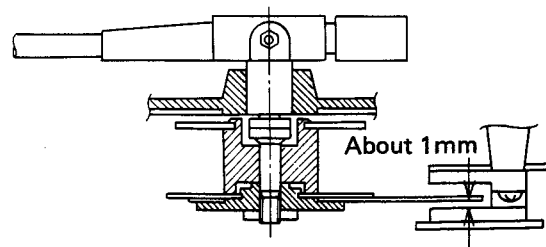

Fig. 1-12 Mounting the magnet Ass'y 2
3. After mounting the magnet ass'y, check that the gap between the sensor and the shutter is about 1mm (see Fig. 1-12).